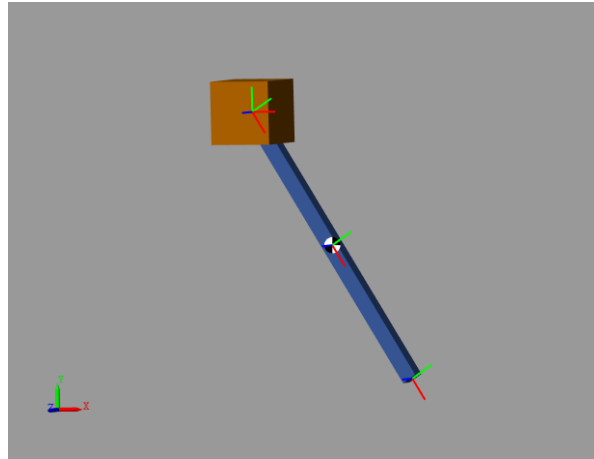

Figure 4: Simple Pendulum within Mechanics Explorer Simulation Window
3. Enable the view of the coordinate frames within the model by right-clicking on the model window and selecting “Show Frames”. Enable the view of the model’s COMs (Center Of Masses) by also right-clicking on the model window and selecting “Show COMs”. Alternatively, you can also access these by clicking “View” within the top menu bar under the “MECHANICCS EXPLORERS” tab. The view should look as it does in figure 4.